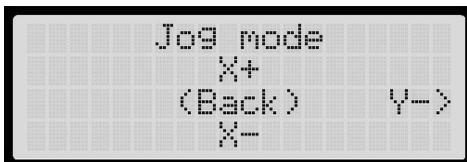

Fig. 4.2
**Jog Mode.** This entry allows you to change the position of the build platform and the extruders. [Fig. 4.2] Use the left and right arrows to select the X, Y, or Z- axis, the up and down arrows to move your extruders or build platform along the chosen axis, and the center button to exit Jog Mode. Jogging the Z-axis will move your platform up and down, and jogging the X and Y- axes will move your extruder right and left and backwards and forwards, respectively.